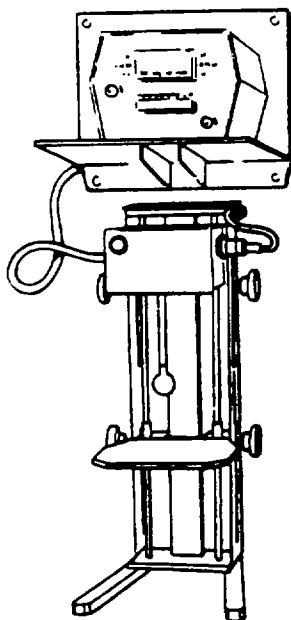

Figure 1-10. Viscometer Set
(1) The computer cabinet contains the primary components of the AOAP SDS. Suspension slides are provided for the computer power unit, disc power unit, and the 13.4 megabyte disk drive. The floppy disk drive is hard mounted in the cabinet frame.
(2) An interface panel located at the rear of the cabinet contains the bulkhead connectors and cabling required to interface the internal cabinetry components to the peripheral devices (i.e., the terminals and cathode ray tube monitors, the printer, and the spectrometer).
(3) All cabling is shielded and grounded to the cabinet frame. The frame is then grounded to the van. The cabinet rear interfaces with the equipment plenum. Airflow deflectors are provided to insure adequate ventilation and proper environment for the computer and its components. Nonventilated disk storage is provided at the top of the cabinet.
(4) The three integrated terminals and the line printer are not located within the computer cabinet. One terminal and the printer are located in the rear (entry/receiving) compartment. Initial sample documentation, data entry, and correlation are performed at this position. The second terminal is adjacent to the computer cabinet and spectrometer; in-process data entry is performed at this position. The third terminal is located at the physical property processing area.
(5) When interfaced with the spectrometer, the AOAP data system provides current and historic wear metal content analysis not available in any other form. The data can be formulated to satisfy the individual commander's requirements and provide rapid status reports of flight and materiel readiness.
c. *Viscometer Set (Figure 1-10)*. An electronic device used to determine the relative viscosity of the oil sample. The unit is located on the curbside wall. The unit provides a 3 1/2-inch digital panel meter for simple readout of the sample viscosity.